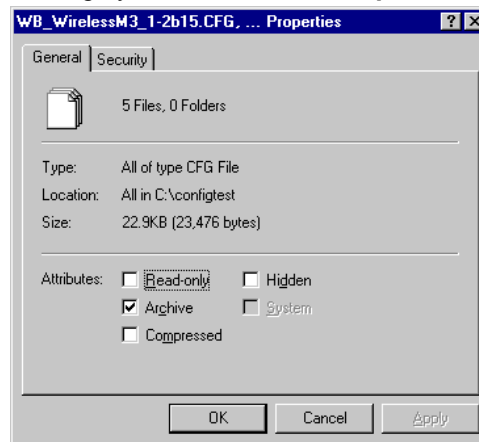

Figure 4-4 File Properties Window
Step 7. Click in the **Attributes:** box preceding **Read-only** to **remove the check**. This removes **Read-only** from the selected files (shown in Figure 4-4).